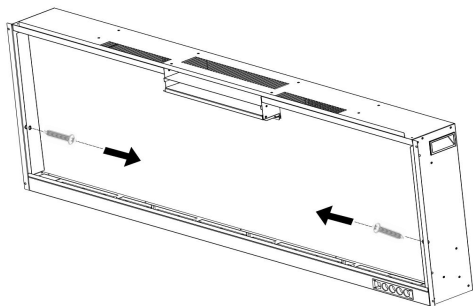

Fig. 2-1
- A.** Take off the screws (1 per side) from the sides of the fireplace. Set the screws aside (Fig. 2-1)